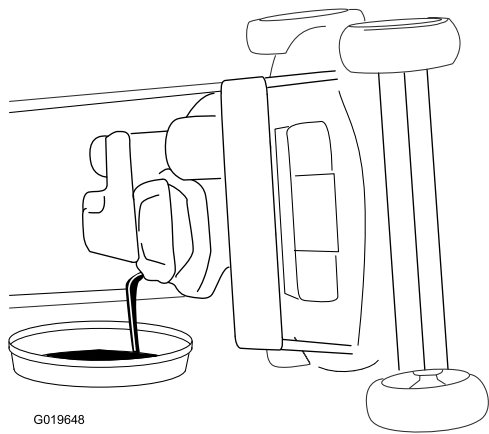

Figure 29
4. Tip the machine onto its side (so that the air filter is up) to drain the used oil from the oil-fill tube (Figure 29).